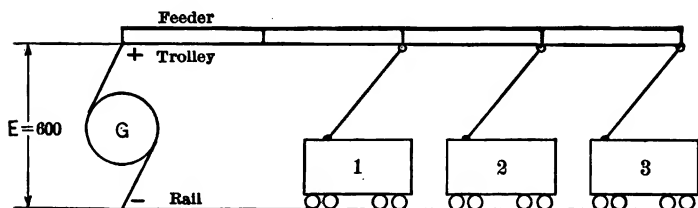

FIG. 3.
9. In Fig. 3 the first car is 2 miles from the generator and is taking 30 amperes. The second car is 3 miles from the station and is taking 20 amperes. The third car is 4 miles from the station and is taking 20 amperes. The trolley has a resistance of 0.40 ohm per mile. Track resistance = 0.05 ohm per mile. Feeder resistance = 0.20